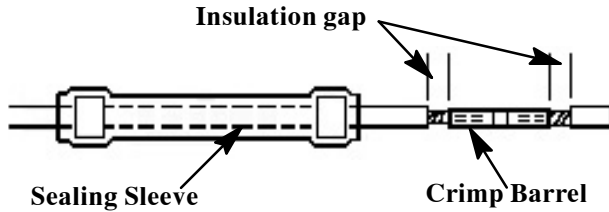

Figure 3. Correctly Installed Crimp Barrel
- (1) Indent centered on splice barrel.
- (2) Indent in line with barrel.
- (3) Barrel not cracked.
- (4) Wire cannot be pulled out of splice.
- (5) (5). Gap of 1/32 to 1/16-inch for wire gages 12 thru 26, exists between crimp barrel and wire insulation (Figure 3).
(5) Gap of 1/32 to 1/16-inch for wire gages 10 thru 26, or 1/16 to 1/8-inch for wire gages 6 and 8 exists between crimp barrel and wire insulation (Figure 3.).